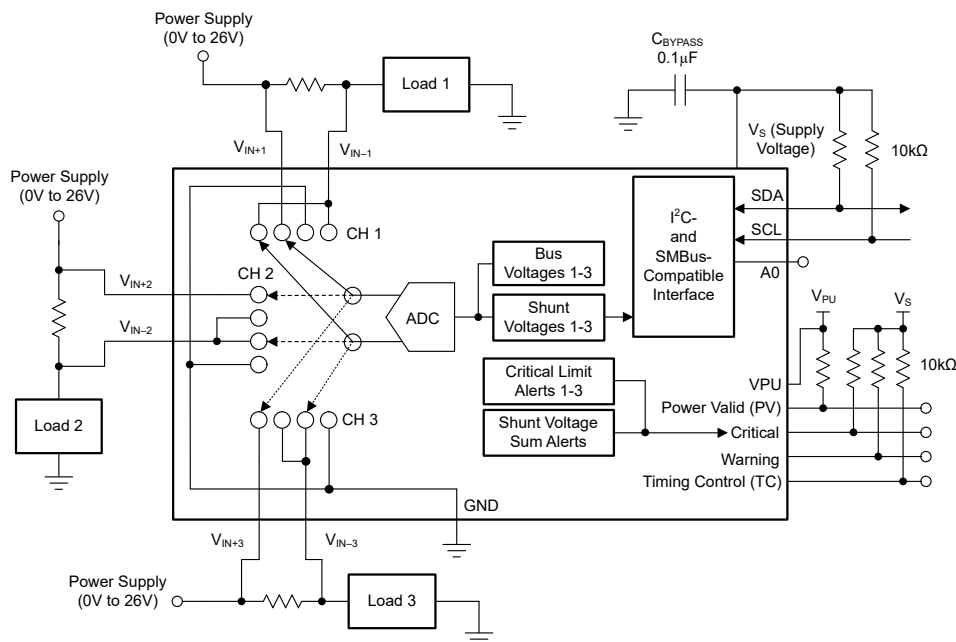

Figure 9-1. INA3221 as an Overcurrent Sensor
Figure 9-1 illustrates a typical INA3221 application circuit using all three channels. For best performance, use a 0.1µF ceramic capacitor for power-supply bypassing, placed as close as possible to the supply and ground pins. The digital pins (SCL, SDA, Critical, Warning, TC) are connected to supply through pull-up resistors. The power valid (PV) alert pin is connected to the VPU pin through a pull-up resistor to enable power-valid monitoring.